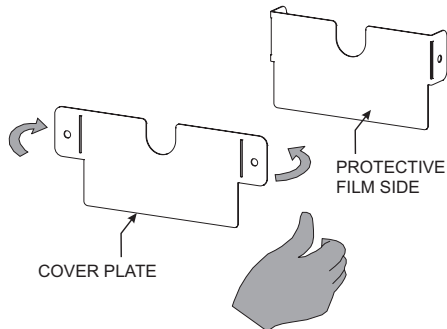

Figure 5
**For R3 Series Grill Heads:** Bend the tabs on the Post Cover Plate to 90° as shown in Figure 5. Two different size cover plates are included with the R3 Series Grill Heads. Choose the plate that will best fit your post.
6. **For R3 Series Grill Heads:** Slide the Post Cover Plate onto the front of the post. Slide the Upper Bracket onto the post. Secure the Post Cover Plate and Upper Bracket to the top of the square post using four #10 – 1/2 Self Drill screws for stainless steel posts and 10 x 1/2 Hex Head screws for black posts. See Figures 5 and 6.